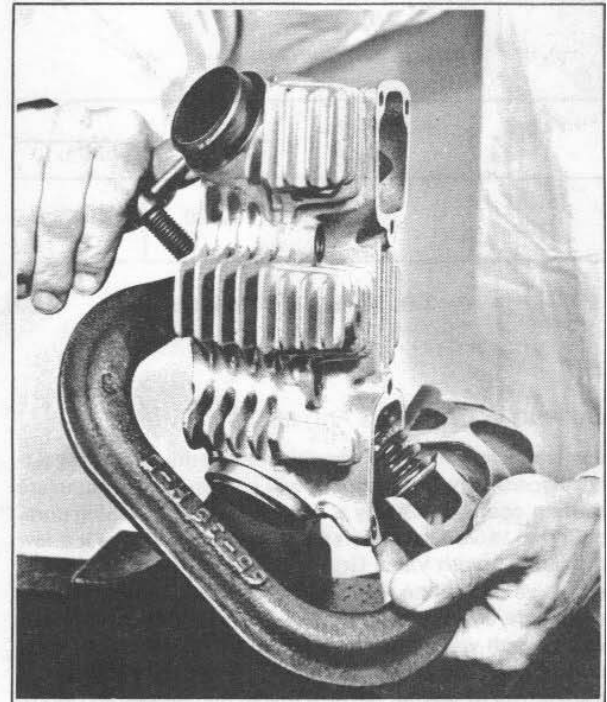

Figure 3-8. Valve Spring Compressor
Compress valve springs using Valve Spring Compressor, Part No. 96600-36 (see Figure 3-8) and remove valve keys (14) from ends of valve stems. Remove valve spring collars (15 and 18), springs (16 and 17) and valves (19). It is customary to reassemble valves in same cylinder head from which they were removed; therefore, before removing, mark them in some manner to identify them with front and rear cylinder head.
If valves have been resealed several times, valve seats may have become too wide and/or valve may be seating itself too deeply in head. When valve seat becomes wider than 1/16 in. (see Figure 3-8) valve seat relief must be counterbored or ground to reduce seat to 1/16 in. Counterbore dimensions are shown. Tools for this purpose are available commercially. To determine if valve is seating itself too deeply in head, measure distance from shoulder of valve guide to end of valve stem. See dimension in Figure 3-8. When valve stem extends through guide in excess of maximum shown, valve seat inserts must be replaced.